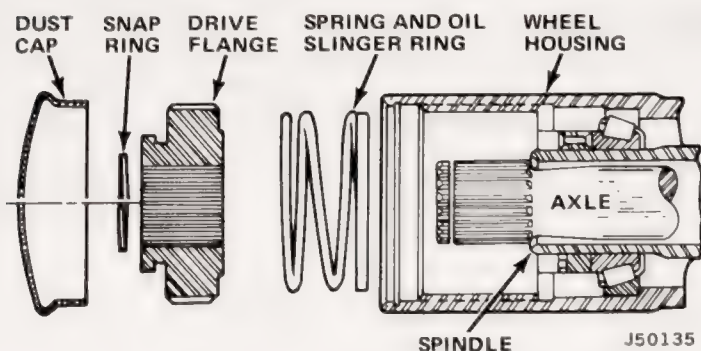
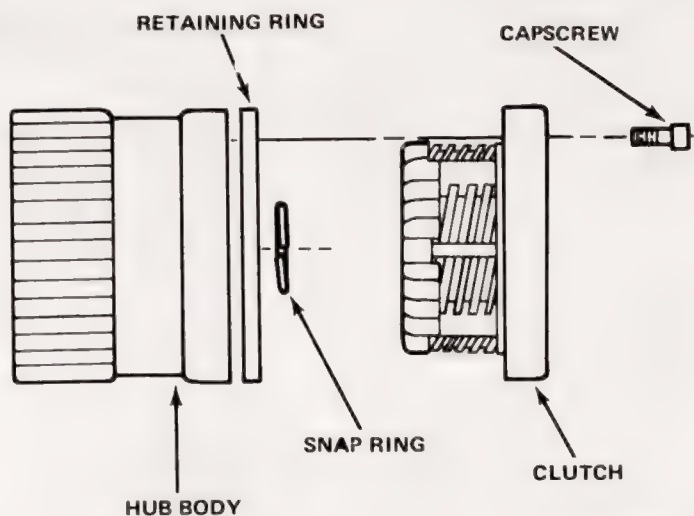

Fig. 7-3 Standard Drive Flange—Cherokee-Wagoneer-Truck Models
Fig. 7-4 Spring-Lock Hubs—Cherokee-Truck Models
- (1) Remove and discard dust cap (fig. 7-3).
- (2) Remove snap ring from end of axle.
- (3) Remove drive flange and spring and oil slinger ring from wheelhousing.
- (4) Separate hub body assembly from clutch assembly (fig. 7-4).
- (5) Install hub body assembly and retaining ring.
- (6) Install snap ring on end of axle shaft.